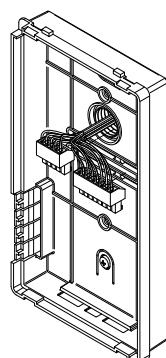
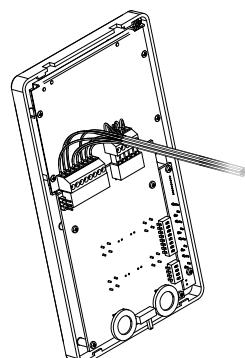

Fig. 5
Fig. 6
5. As shown in **Fig. 5**, connect the wires to the removable terminals following the provided installation diagram. Connect the terminal blocks to the electronics contained in the cover as shown in **Fig. 6**. Test system before closing.